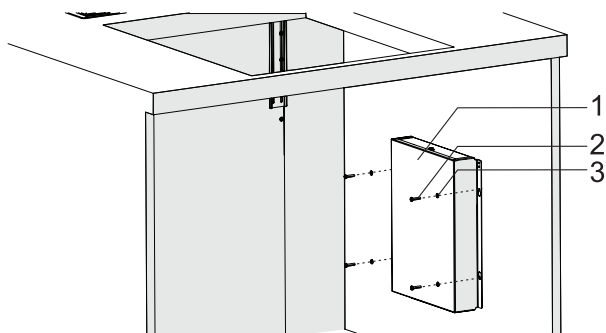

Fig. 19
6. → Place the hood circuit box at a suitable location in the cabinet. Insert roves to four 3.9x22 screws and mount inside the cabinet (Fig. 19).